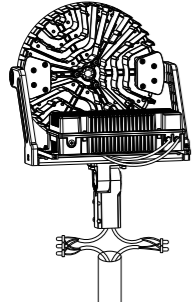

Figure 10
- 1: Loosen the four bolts on AM bracker,connect the wires correctly,and pull the wires into the poles. (Figure 10)